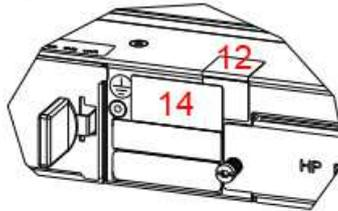

Figure 19 – Rear Ventilation Holes Tamper-Evidence Label Placement
To block view to within the module, one (1) Tamper-Evidence Label will be placed over the rear ventilation holes. The CO must first remove the grounding screw located next to the ventilation holes. After the screw has been removed, a label (label 14) will be placed horizontally, covering the hole from the removed screw and the ventilation holes. The label will overlap the previously placed label from Section 3.1.1.5 (label 12). Figure 19 shows the proper placement of this label over the rear ventilation holes.